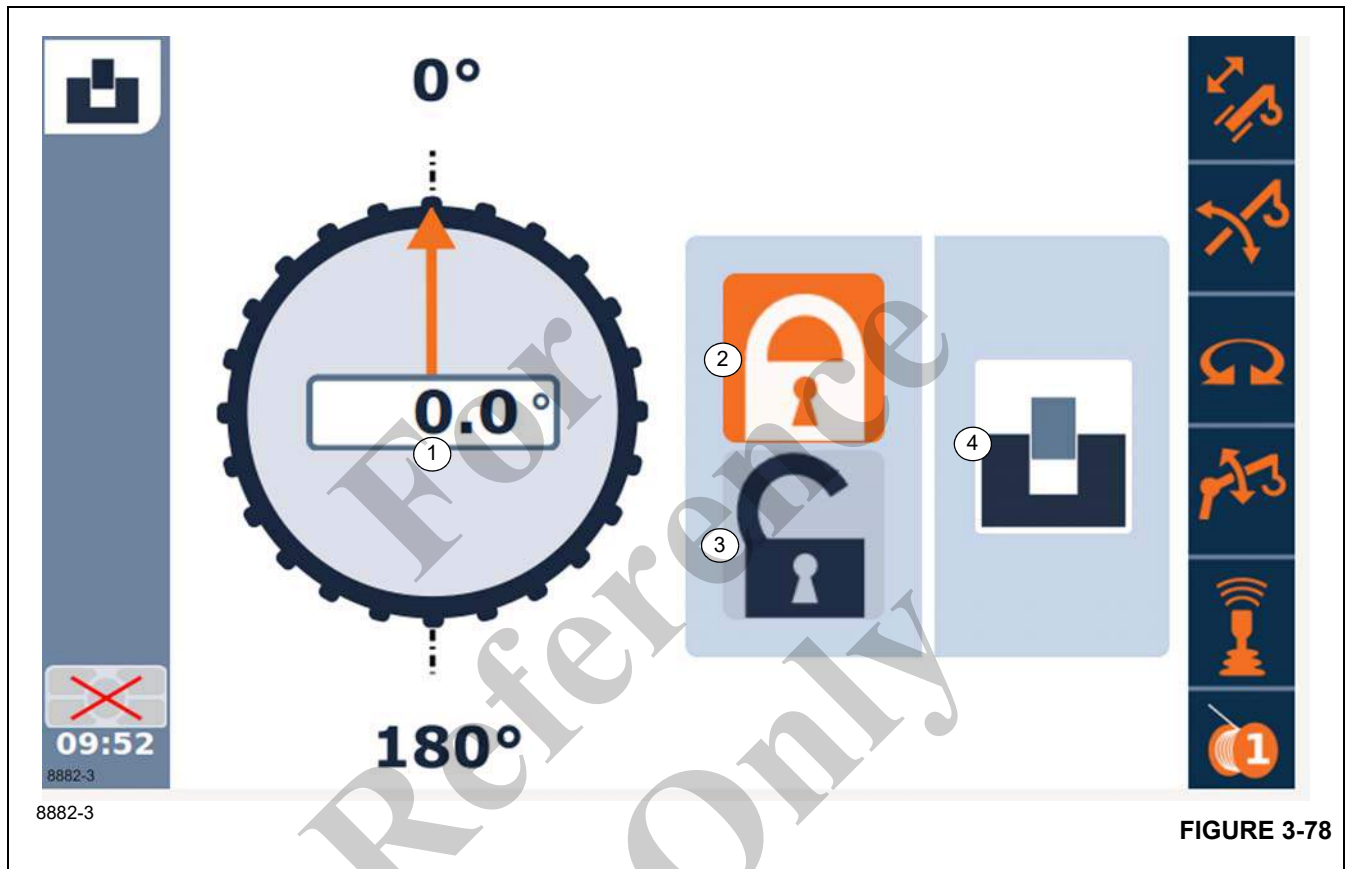

FIGURE 3-78
The Superstructure Lock Menu (Figure 3-78) is used to lock or unlock the 360 degree swing lock. This screen provides indication of the swing angle (1) the swing lock status (locked/unlocked/intermediate/error) and provides selections (2 and 3) to actuate the lock.